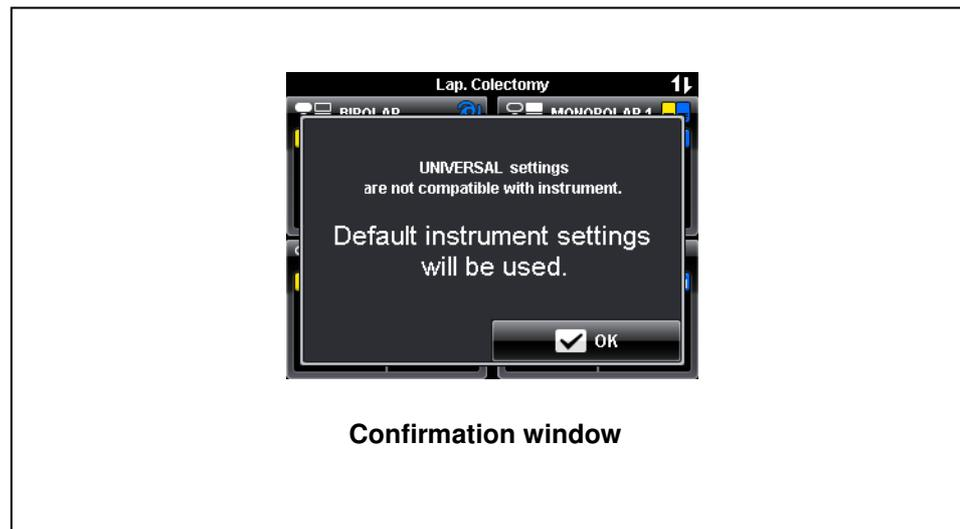

Figure 5.5
- If at least one displayed setting of mode, power level or effect is out of range of the allowed Olympus HF instrument settings, a confirmation window according to figure 5.5 will appear. Press the “OK button” to continue. The default instrument settings will be taken and the display returns to the “All screen”.